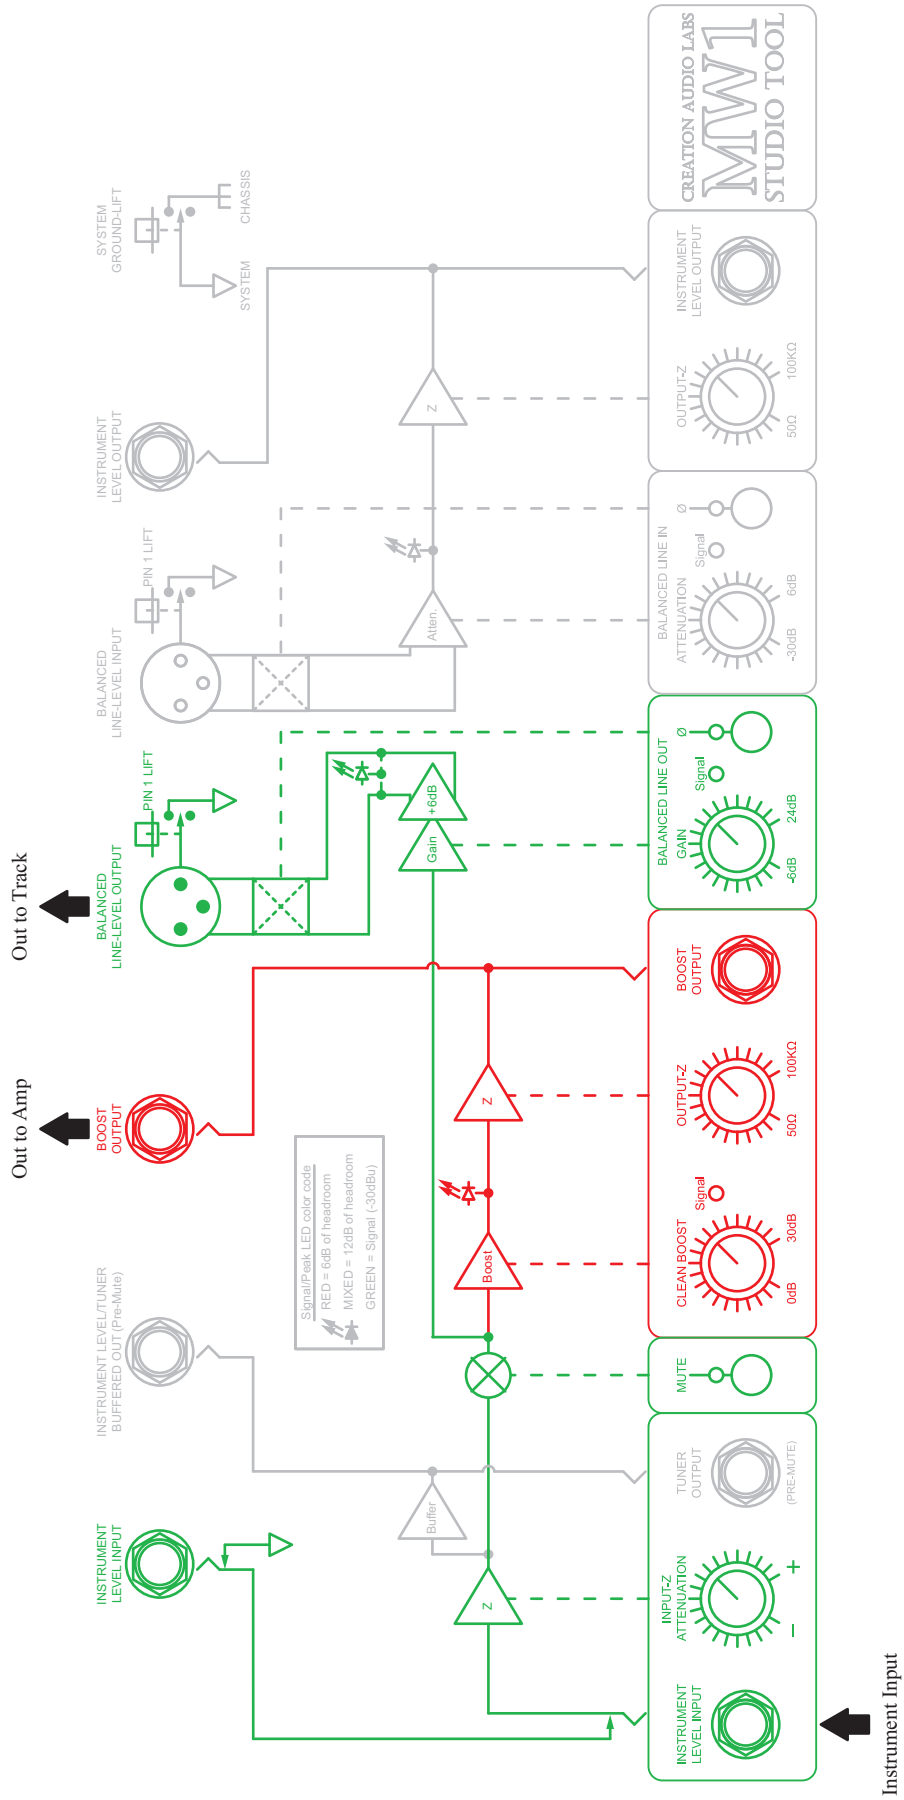

FIG. 3
- Record DI and amp tracks simultaneously. (Fig. 3)